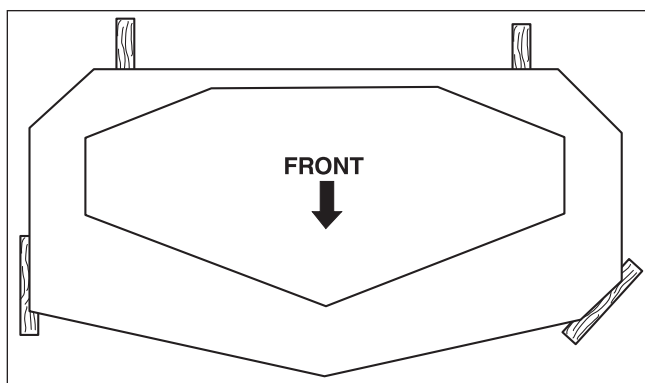

Figure 43. 2 x 4 Locations
3. Place 2 x 4 blocks under each corner of the mower deck with the 3-1/2" sides being vertical. See Figure 43.